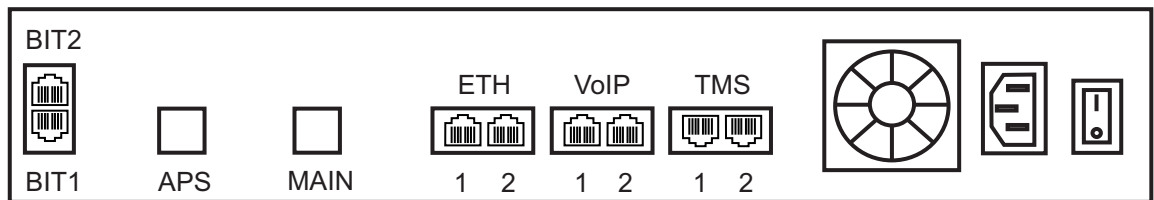

Figure 2.8 Optical Interface to the PSTN
A TMG3200, with one main and one backup OC3 or STM-1 port enables connection to OC3/STM-1 lines. See figure 2.8 on page 18. Refer to table 2.2 on page 18 for a listing of optical interfaces. The default OC3/STM-1 connection is SMF, intermediate reach, (SFP-OC3-IR1) 1310 nm with LC type connectors.
1. Connect a fiber optic cable between the Main port and OC3/STM-1 line, as shown in figure 2.8 on page 18.